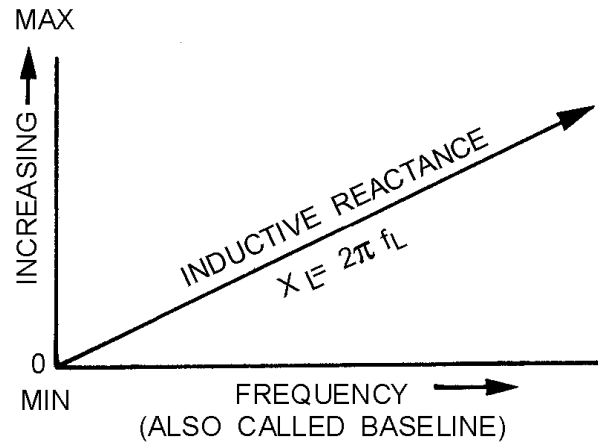
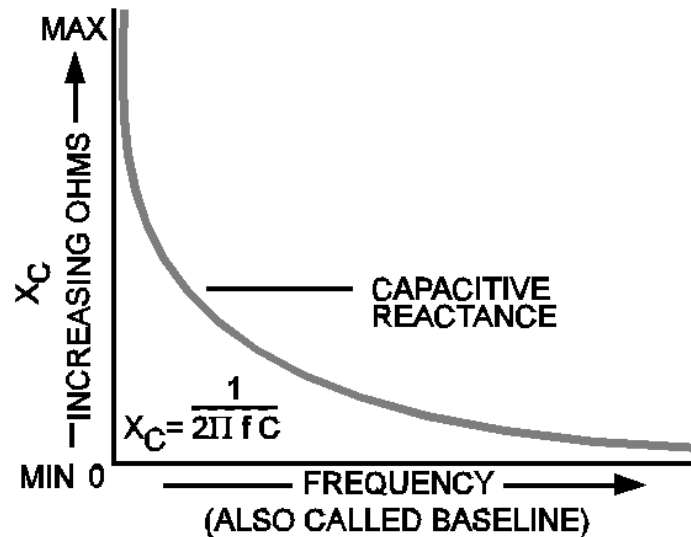
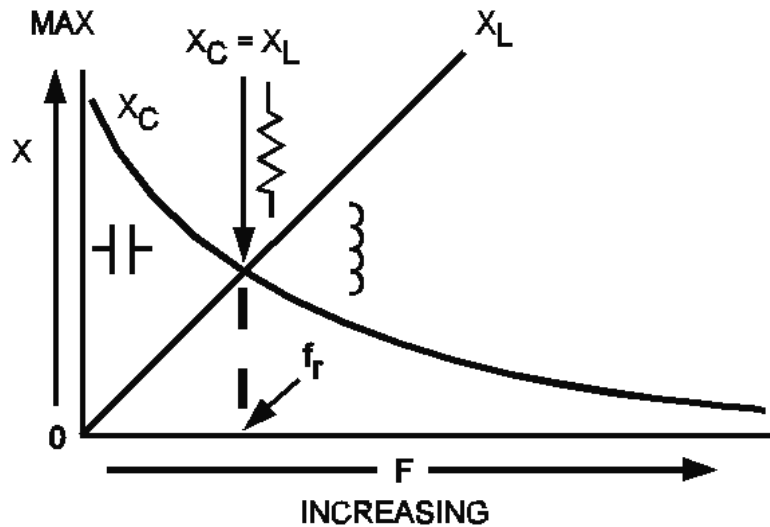

Figure 1-2.—Effect of frequency on inductive reactance.
Figure 1-3.—Effect of frequency on capacitive reactance.
Figure 1-5.—Relationship between X_L and X_C as frequency increases.
As shown in the equation, any increase in frequency, or " f ," will cause a corresponding increase of inductive reactance, or " X_L ." Therefore, the INDUCTIVE REACTANCE VARIES DIRECTLY WITH THE FREQUENCY. As you can see, the higher the frequency, the greater the inductive reactance; the lower the frequency, the less the inductive reactance for a given inductor. This relationship is illustrated in figure 1-2. Increasing values of X_L are plotted in terms of increasing frequency. Starting at the lower left corner with zero frequency, the inductive reactance is zero. As the frequency is increased (reading to the right), the inductive reactance is shown to increase in direct proportion.
As shown in figure 1-3, the effect of capacitance is opposite to that of inductance. Remember, capacitance causes the current to lead the voltage by 90 degrees, while inductance causes the current to lag the voltage by 90 degrees.
A.c. circuits that contain both an inductor and a capacitor have interesting characteristics because of the opposing effects of L and C. X_L and X_C may be treated as reactors which are 180 degrees out of phase. As shown in figure 1-2, the vector for X_L should be plotted above the baseline; vector for X_C , figure 1-3, should be plotted below the baseline. In a series circuit, the effective reactance, or what is termed the RESULTANT REACTANCE, is the difference between the individual reactances. As an equation, the resultant reactance is:
The universal reactance curves of figures 1-2 and 1-3 are joined in figure 1-5 to show the relative values of X_L and X_C at resonance, below resonance, and above resonance.